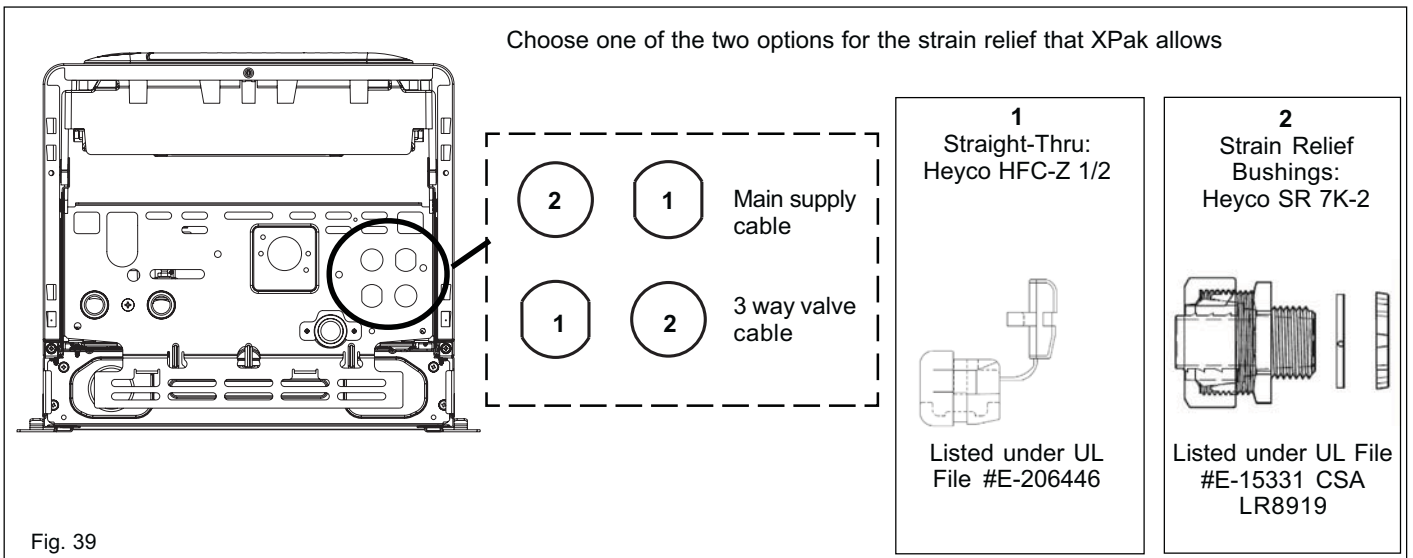

Fig. 39
Unhook and remove the terminal block cover (120V). Pass the cable through the cable anchorage point on the control panel. Pass the cable through the Strain Relief Bushings (field supplied) (Fig. 39).
- Chose the circle holes in the case of using Heyco-Flex Metallic (SR 7K-2) (Fig. 39 ref. 2).
- Chose the non-circle holes in the case of using Strain Relief Bushings (1/2" HFC-Z 1/2) (Fig. 39 ref. 1).